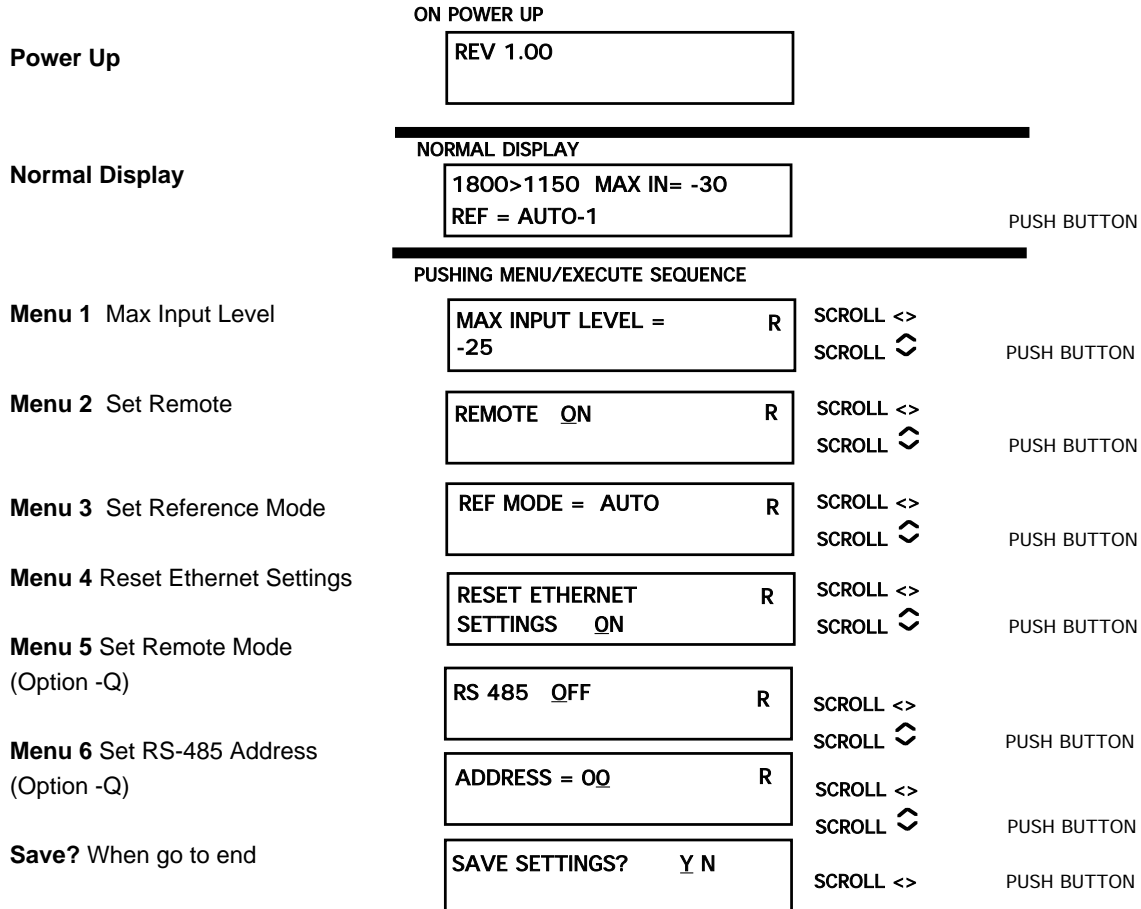

FIGURE 2.5 Menu Display and Sequence
2.5.1 Functions - This section describes operation of the front panel controls. There are three operator switches, the LCD display and alarm indicator LEDs. All functions for the equipment are controlled by these components. The functions are (see Figure 2.5):
Push the Menu/Execute switch to get to the Maximum Input Level (See Figure 2.5 for the sequence of menu options):
Figure 2.5 gives the menu items and how to make changes.